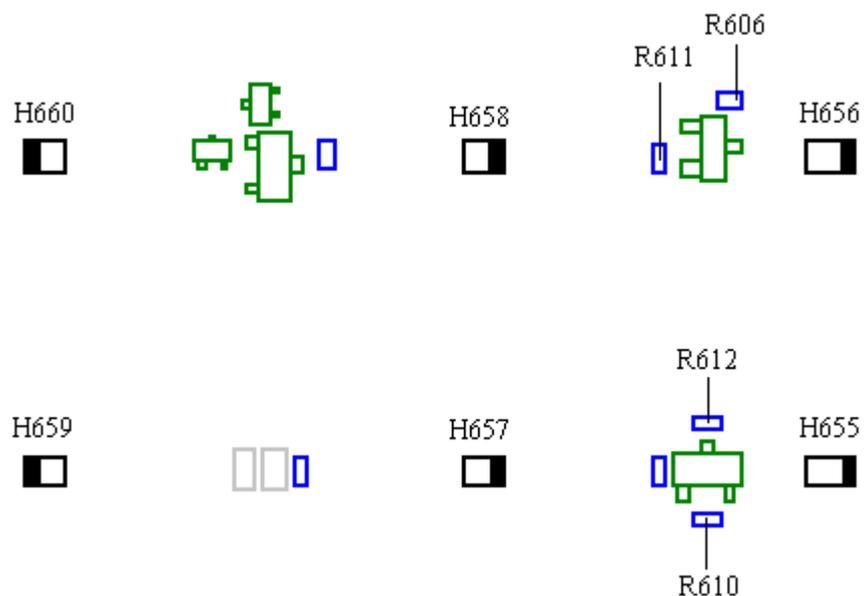

Fig. 9.6
* If VBATT is missing it most likely means that the phone is liquid damaged. If VBATT is correct, check that R612 (~0 ohms, class A), R610 (~27 ohms, class A) and R606 (~0 ohms, class A) are properly mounted and that they have the correct resistance (all in fig. 9.6).
Make sure that all the LEDs H655-H660 (class A, fig. 9.6) are physically intact, correctly mounted and soldered.
- * If VBATT is correct, check that R612 (~0 ohms, class A), R611 (~47 ohms, class A), R610 (~27 ohms, class A) and R606 (~0 ohms, class A) are properly mounted and that they have the correct resistance (all in fig. 9.6). Table 1 shows symptoms when the resistance of the resistors are incorrect.